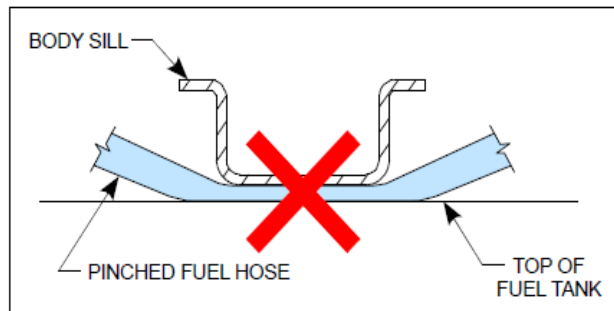

Figure 7 – Pinched Fuel Vapor Lines
- Avoid pinching or kinking of any fuel vapor hose. (See Figure 7).